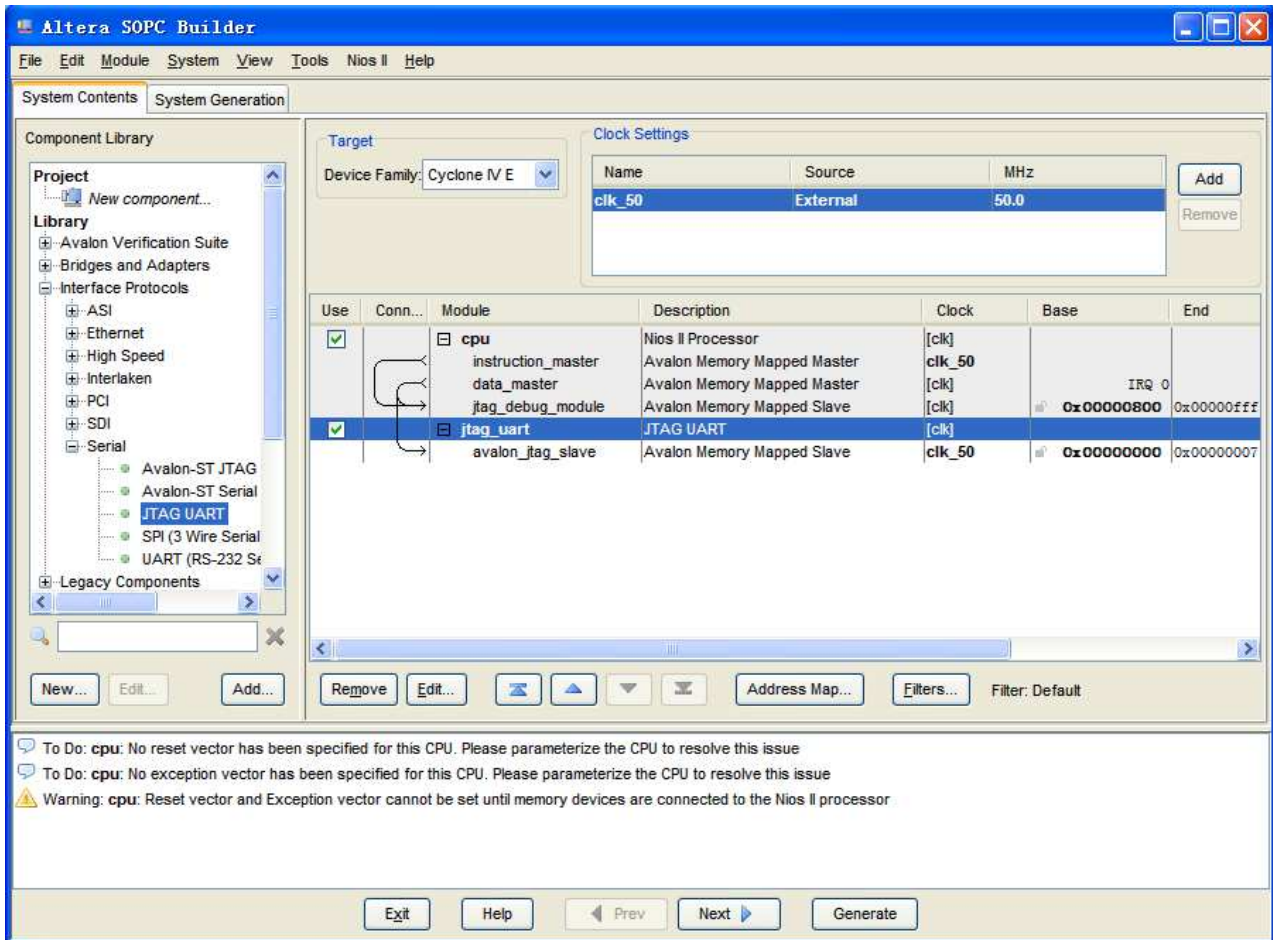

Figure 7-22 Rename JTAG UART
13. Select the `jtag_uart_0` component and rename it to `jtag_uart` as shown in Figure 7-22.